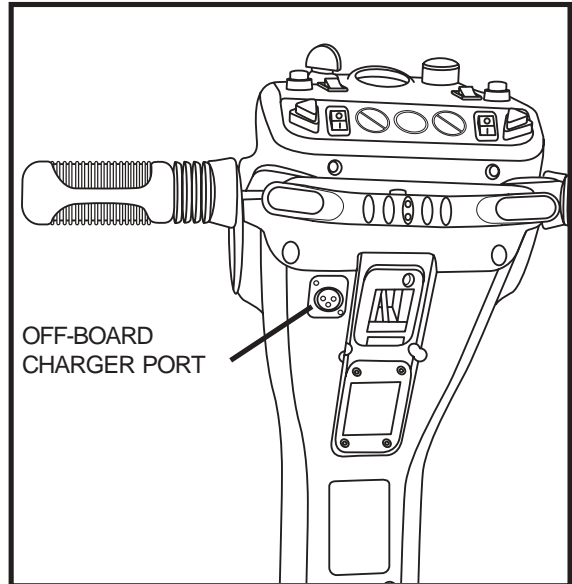

Figure 9. Off-Board Charger Port
4. Plug the 3-pin charger power cord into the off-board charger port. **See figures 9 and 10.**